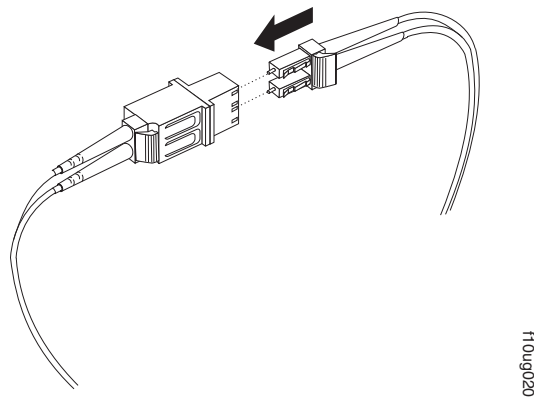

Figure 33. Connecting an LC-LC cable into the LC-SC cable adapter
4. Carefully insert the other end of the LC-LC cable into the LC connector end of the LC-SC cable adapter as shown in Figure 33 on page 63. Push in the